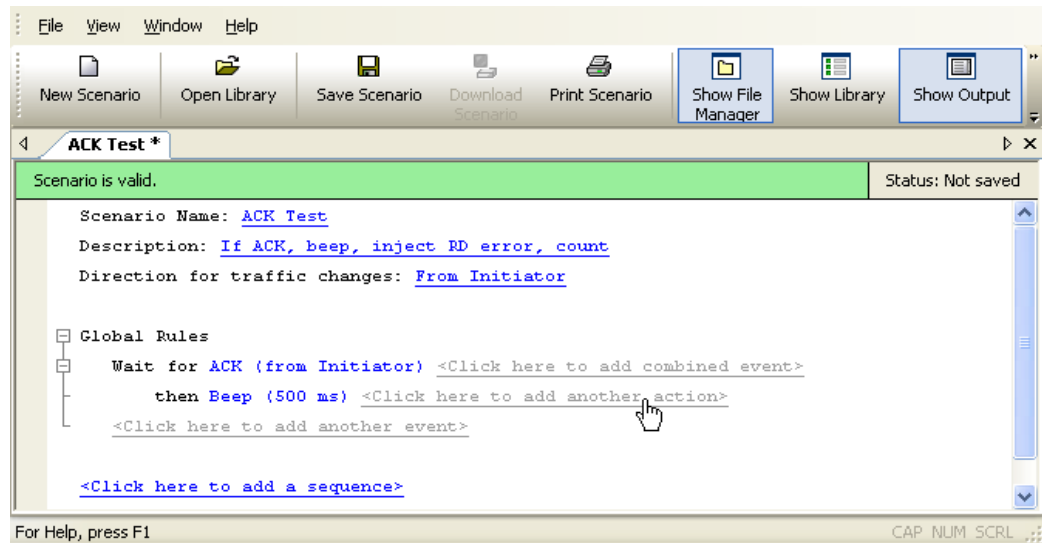

Figure 64 Example 5: Entering the Second Action
Step 3 Click on the **add another action** prompt to add a second action (Figure 64).